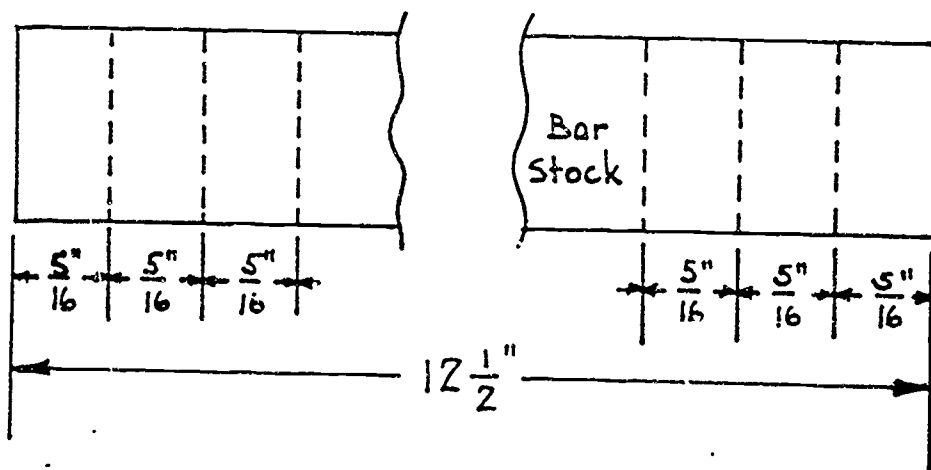

Figure 18: How many pieces can you cut from this bar stock?
3. Your supervisor has given you the pattern and dimensions in Figure 18. What is the greatest number of pieces you can make from the bar stock?